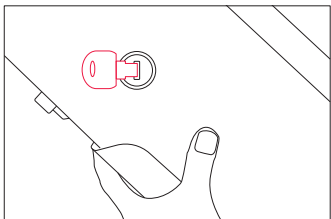
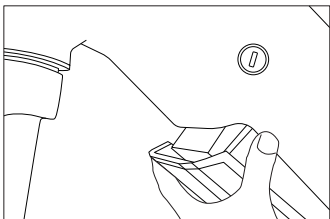

Figure 3
Figure 4
Step 2: Step 2: To remove the battery, first support the lower battery casing with your palm(fig 3). Insert the key and turn it counterclockwise by a certain angle. Then, press down on the key and turn it again to detach the battery(fig 4).